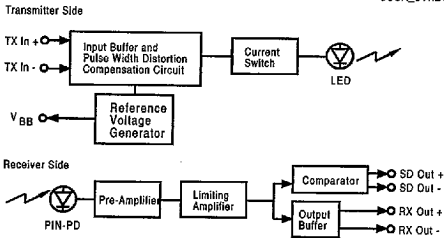

Fig. 1 Spectral width VS center wavelength
4. The optical spectral width (full width half maximum) conforms to boundaries outlined in Figure 1. This data conforms to ANSI X3T9.5 / 84-48, Rev. 8. The rise and fall time use the Halt Line State (12.5 MHz square wave).
5. Refer to Figure 1: Spectral Width vs Center Wavelength